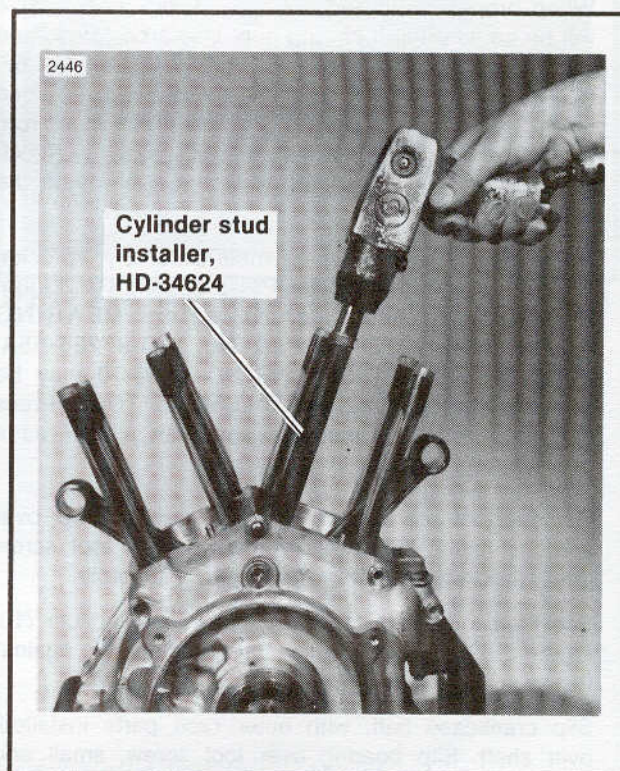

Figure 3-57. Cylinder Stud Installation
4. See Figure 3-57. Use an air or electric impact wrench and install the stud threads to the depth of the painted line. Do not use a ratchet or breaker bar because they will bend the stud.